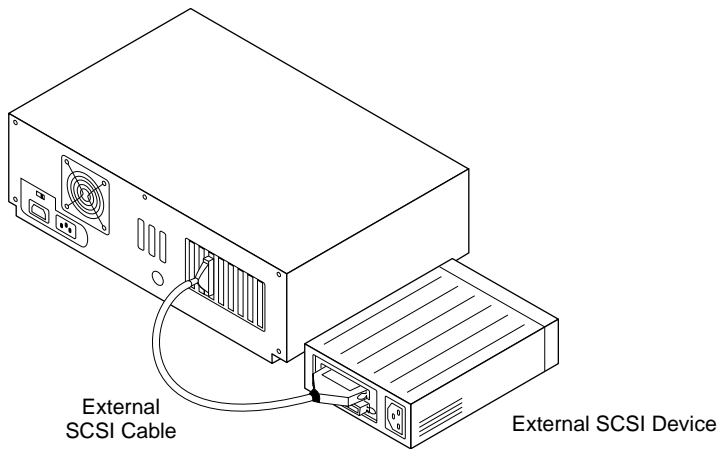

Figure 3-10. External Cable to External SCSI Device
- 2 Attach the connector at the other end of the external cable to either one of the SCSI connectors on the external SCSI device, as shown in Figure 3-10.